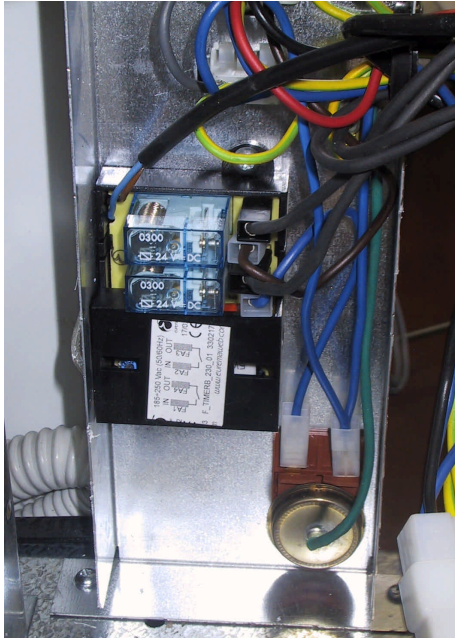
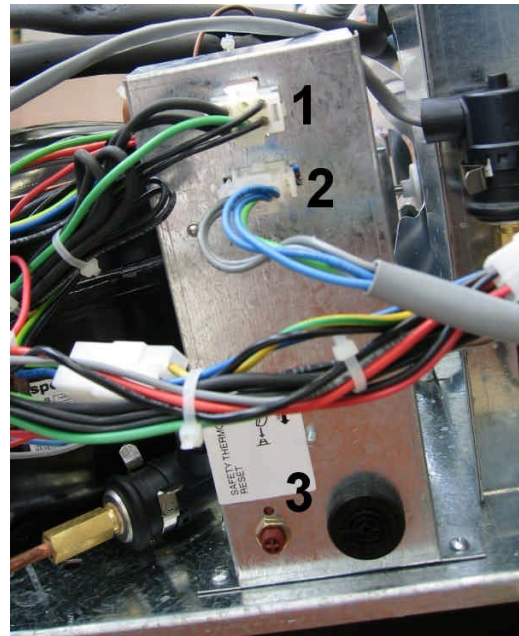

Figure 29
Figure 30
Behind the motor fan is the electrical component support (Fig. 29 and 30), enclosed by the cover (80), where the safety thermostat (KS) (64), electronic relay (RE) (77), Acoustic alarm (AA) (when the High Pressure Switch (PAP) is present), terminal connector of the evaporator heater (REV) (102) (marked with “1” in Fig. 30) and the connector of the evaporator motor fans (MI) (47) (marked with “2” in Fig. 30) are located. The compressor (20) is located behind the condenser motor fan on the left, together with the Low Pressure Switch (PBP) (100). Behind the compressor are located the electrical accessories box (21). The plastic tray for settling and water pre-heating (96) is behind the motor fan on the right with its relative stainless steel pipe (71). The water overflowing from it is collected in the stainless steel tray (97) with water heater (REV) (75), fixing bracket (86) floater switch (ILA) (73). Behind the stainless steel tray (97) is the Cut off valve (VM) (95).